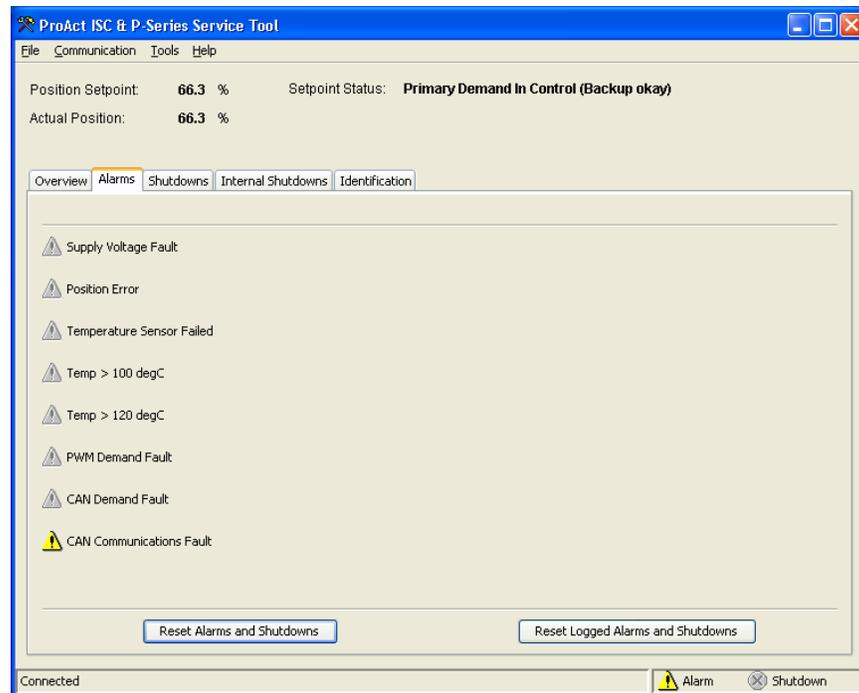

Figure 4-5. Service Tool—Alarms Tab
- Alarms, (see Figure 4-5)
To monitor the shutdown conditions, go to the Shutdowns and the Internal Shutdowns pages (Figures 4-5 and 4-6) on the main window. The values displayed on the Shutdowns screen dynamically change with the fault configuration.